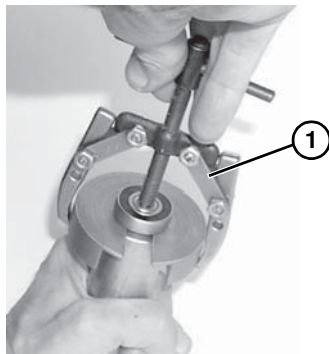

Figure 70
2. Using a puller (**Figure 70, item 1**), remove and discard bearing.